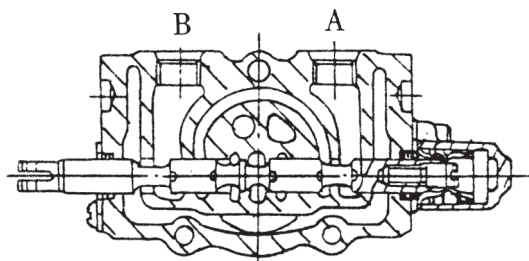

Fig.7.4 Pull slide valve
(7) Drawing-out of plunger (See fig.7-4)